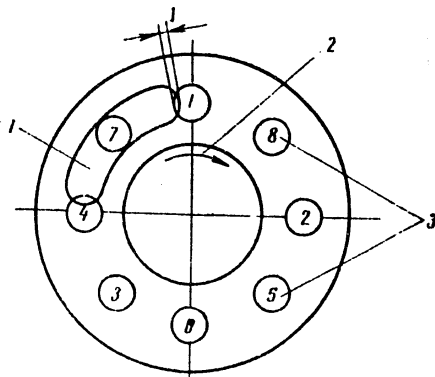

FIG. 84. SETTING THE AIR DISTRIBUTOR SLIDE VALVE ACCORDING TO THE FIRST CYLINDER DURING "AHEAD" ROTATION
- (g) fit the slide valve complete with the nut, splined bushing and spring on the shaft of the upper air distributor in such a way that the slide valve slot front edge (during AHEAD direction of rotation) overlaps the edge of the 1st cylinder hole in the drum by a value not exceeding 1 mm (see air distributor setting diagram, Fig.84).